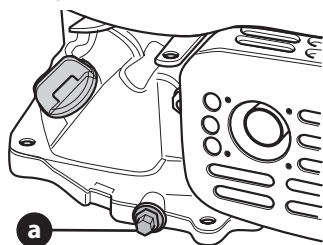

Figure 8
2. Remove oil drain plug (a) and allow oil to drain into a suitable container (Figure 8).